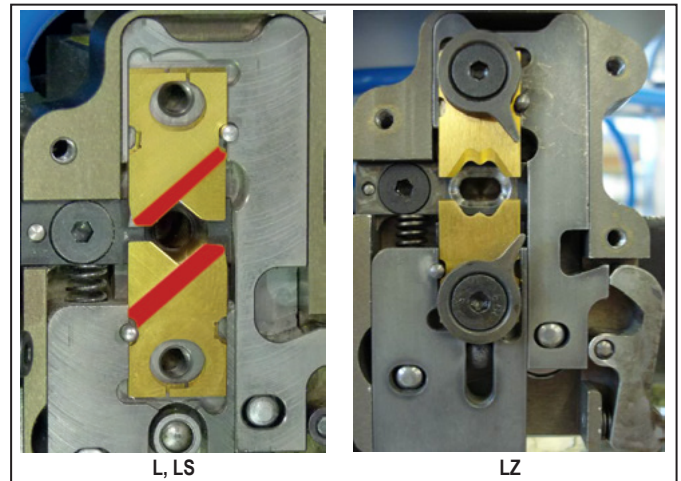

Figure 8.2 Blade alignment
- **L and LS:** Assemble each blade pair so that the bevelled edges point outwards (marked in red in figure 8.2). Place both blade pairs in the holder.